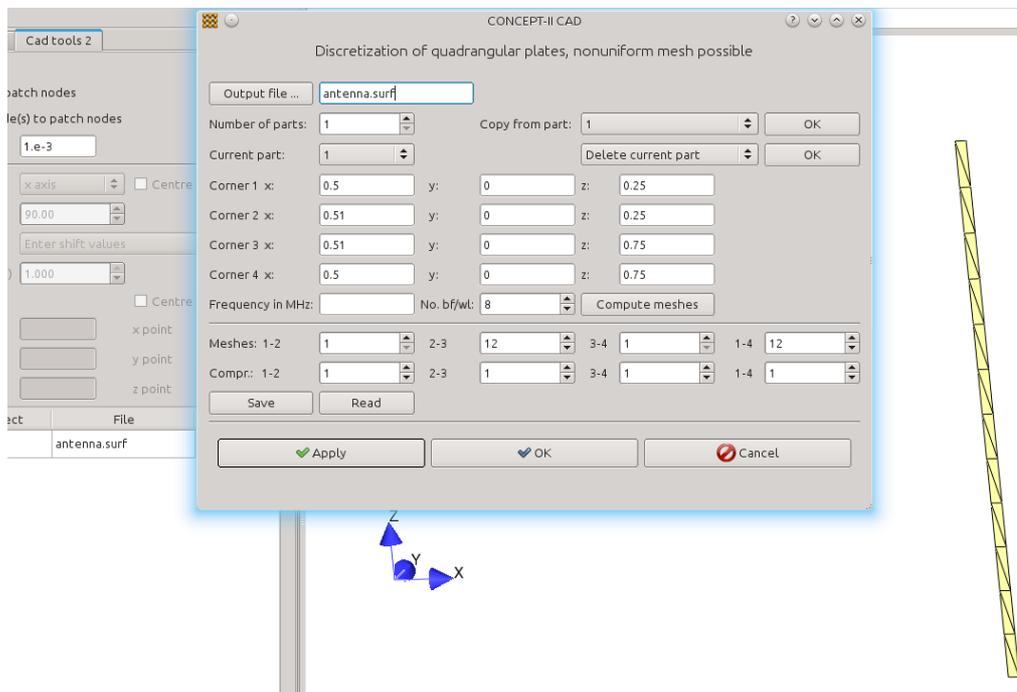

Fig 2: Creating the antenna strip
- Use the plate tool  to create the strip antenna. **Cad tools**, → **Cad tools 2**, see Fig 2. The length of the strip is 0.5 m and the width is 1 cm